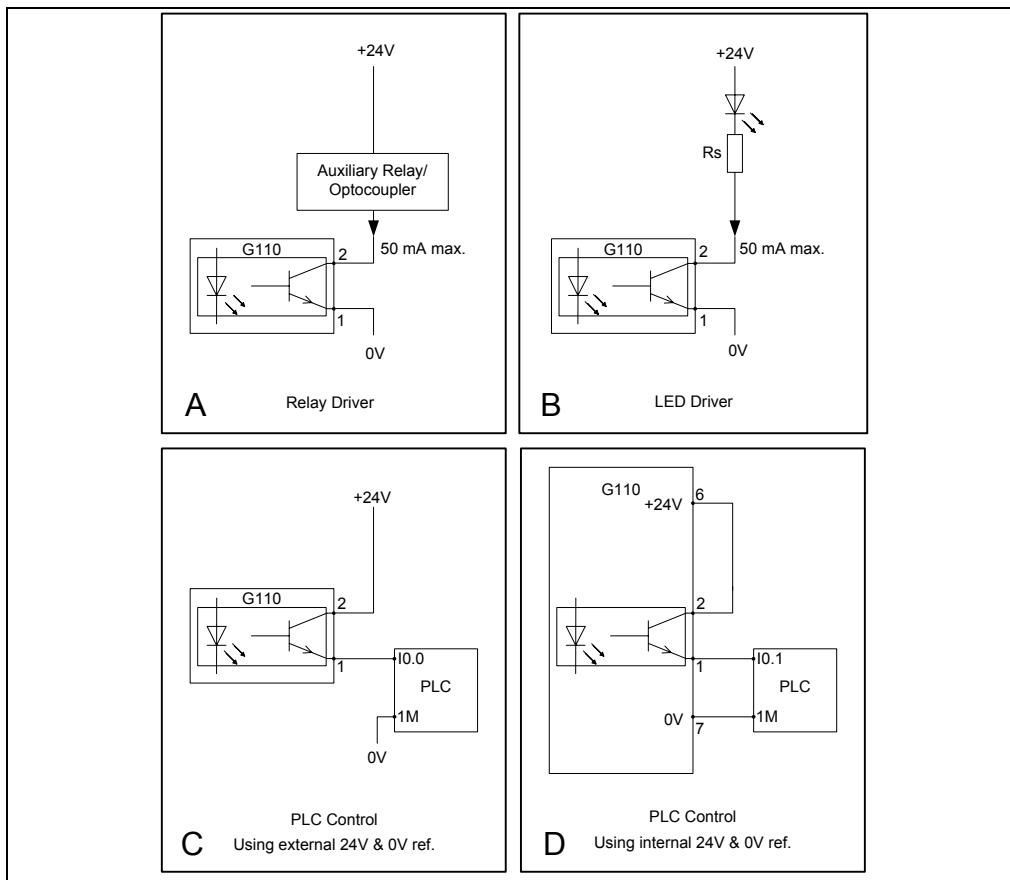

Figure 3-8 Typical Configurations of the Digital Output
It can therefore be connected to operate a warning light (LED) see Figure 3-8 (B) on page 50 or an auxiliary relay, see Figure 3-8 (A), providing that those ratings are not exceeded.
Since the digital input of a PLC has a high impedance, the digital output can also be connected to the PLC using the internal power supply of the inverter using terminal 6 of the inverter, see Figure 3-8 (D) below. An external 24 V power supply is also permissible, see Figure 3-8 (C) below.
The sense of the optocoupler - "switch" (contacts open/contacts closed - respectively high active and low active) depends on the signal selected by P0731. For example, P0731=4 means drive running equals high active and is described in the Parameter List. The sense of the optocoupler may be inverted by using P0748. Some typical configurations are shown in Figure 3-8 below.